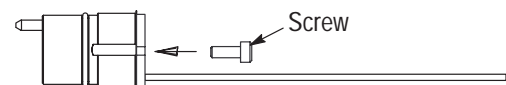

Figure 11
3. Insert the ferrule assembly into the channel cavity of the EB insert until it bottoms. To avoid damage to the fiber, DO NOT push the fiber to install the ferrule assembly. See Figure 11, Detail A.
4. Slide the spring over the ferrule assembly and into the channel cavity (the spring will protrude slightly from the cavity). See Figure 11, Detail B.
5. Align the index pin hole of the ferrule plate with the index pin at the back of the EB insert, and slip the fiber into the closest slotted hole in the ferrule plate. See Figure 11, Detail C.
6. Hold the ferrule plate against the EB insert, making sure that the index pin enters the index hole. Thread the screw into the screw hole in EB insert. See Figure 11, Detail D. Using the 2.5-mm hex wrench, tighten the screw to a torque between 0.8 and 0.9 N-m. Check to make sure that the ferrule plate is flush with the EB insert.